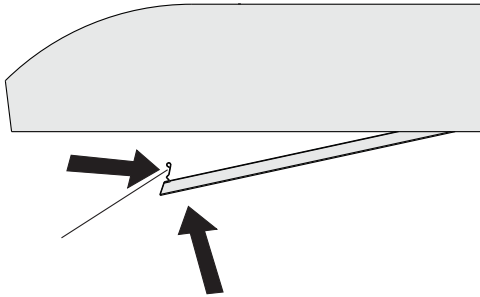

Figure 29
- Press down the spring plate and push the cover plate then fasten it on the body (see Figure 29).